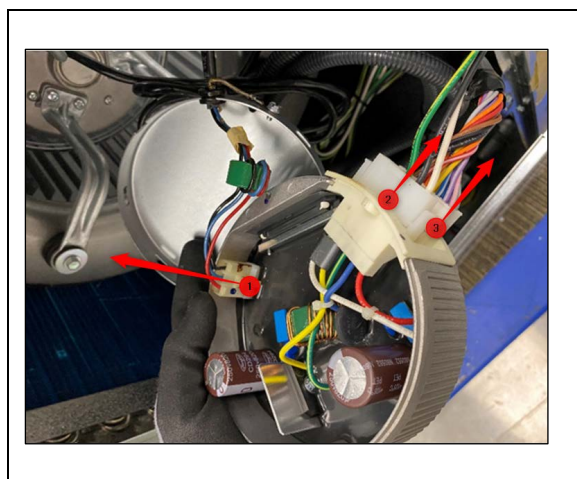

Fig.6 Unplugging electrical connections
**Step 6.** Unplug the three electrical harness connectors attached to the control module. (See Fig. 6).